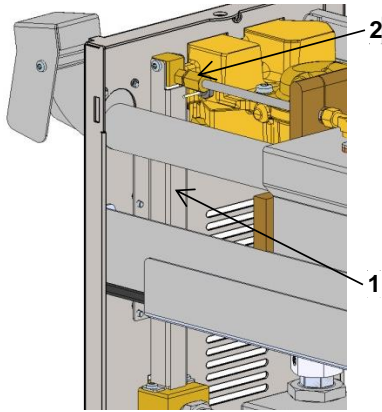

Fig. 3: Mount level indicator
- Push in level indicator (10) (Label 1 → Fig. 3).
- Tighten screws on pipe (Label 2 → Fig. 3).